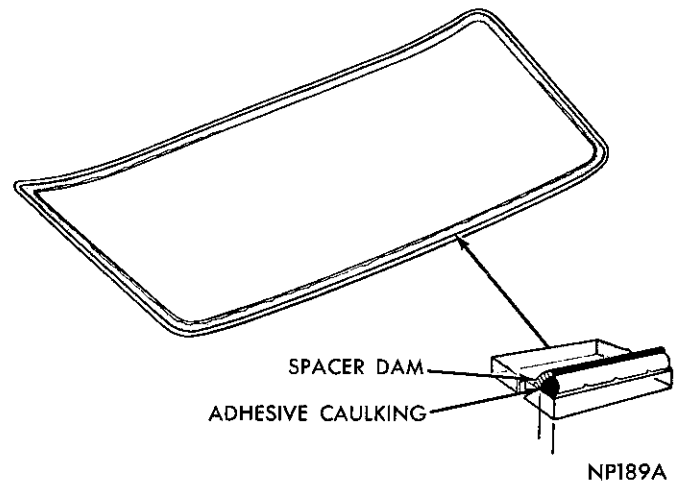
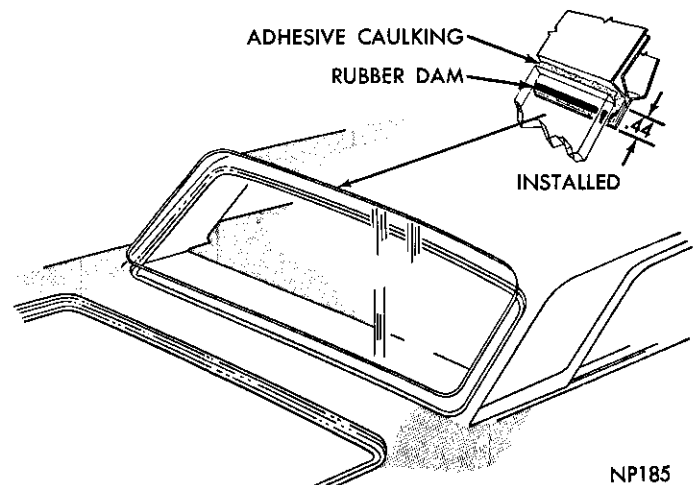

Fig. 5—Application to Glass
Fig. 6—Glass Installation
(7) Apply a piece of masking tape over each side of glass and roof extensions. Slit tape vertically at edge of glass so when glass is installed, tape on glass can be aligned with tape on body.
(8) Remove glass from opening and place on a protected surface, with inside surface up.
(11) Insert adhesive tube into a standard household caulking gun, install nozzle on end of tube, and puncture adhesive seal at nozzle.
(12) Apply a smooth continuous 3/8 inch bead of adhesive on glass between glass edge and spacer dam (Fig. 5).
(13) When positioning glass in opening, alignment must be exact to prevent necessity of moving glass after adhesive contacts fence.
(14) With an assistant and using suction cups on glass, **align tape on glass with tape on body, make certain glass will set on rubber spacers and install glass in opening (Fig. 6).**
(15) Press glass **lightly** to adhere adhesive to fence flange.
(16) Run a flat wooden or fibre tool around entire edge of glass to force adhesive into opening between edge of glass and reveal.
(18) Install garnish and exterior mouldings, clean glass exterior surface and remove protective covers.